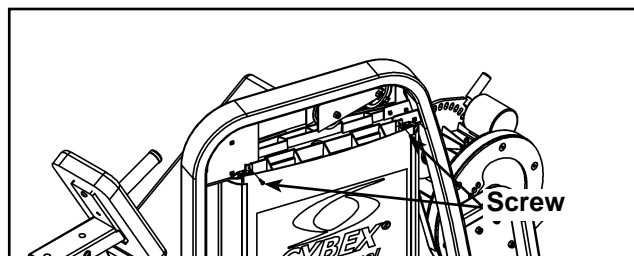

Figure 4
- G. Remove the top two screws securing the back shroud. See Figure 4.